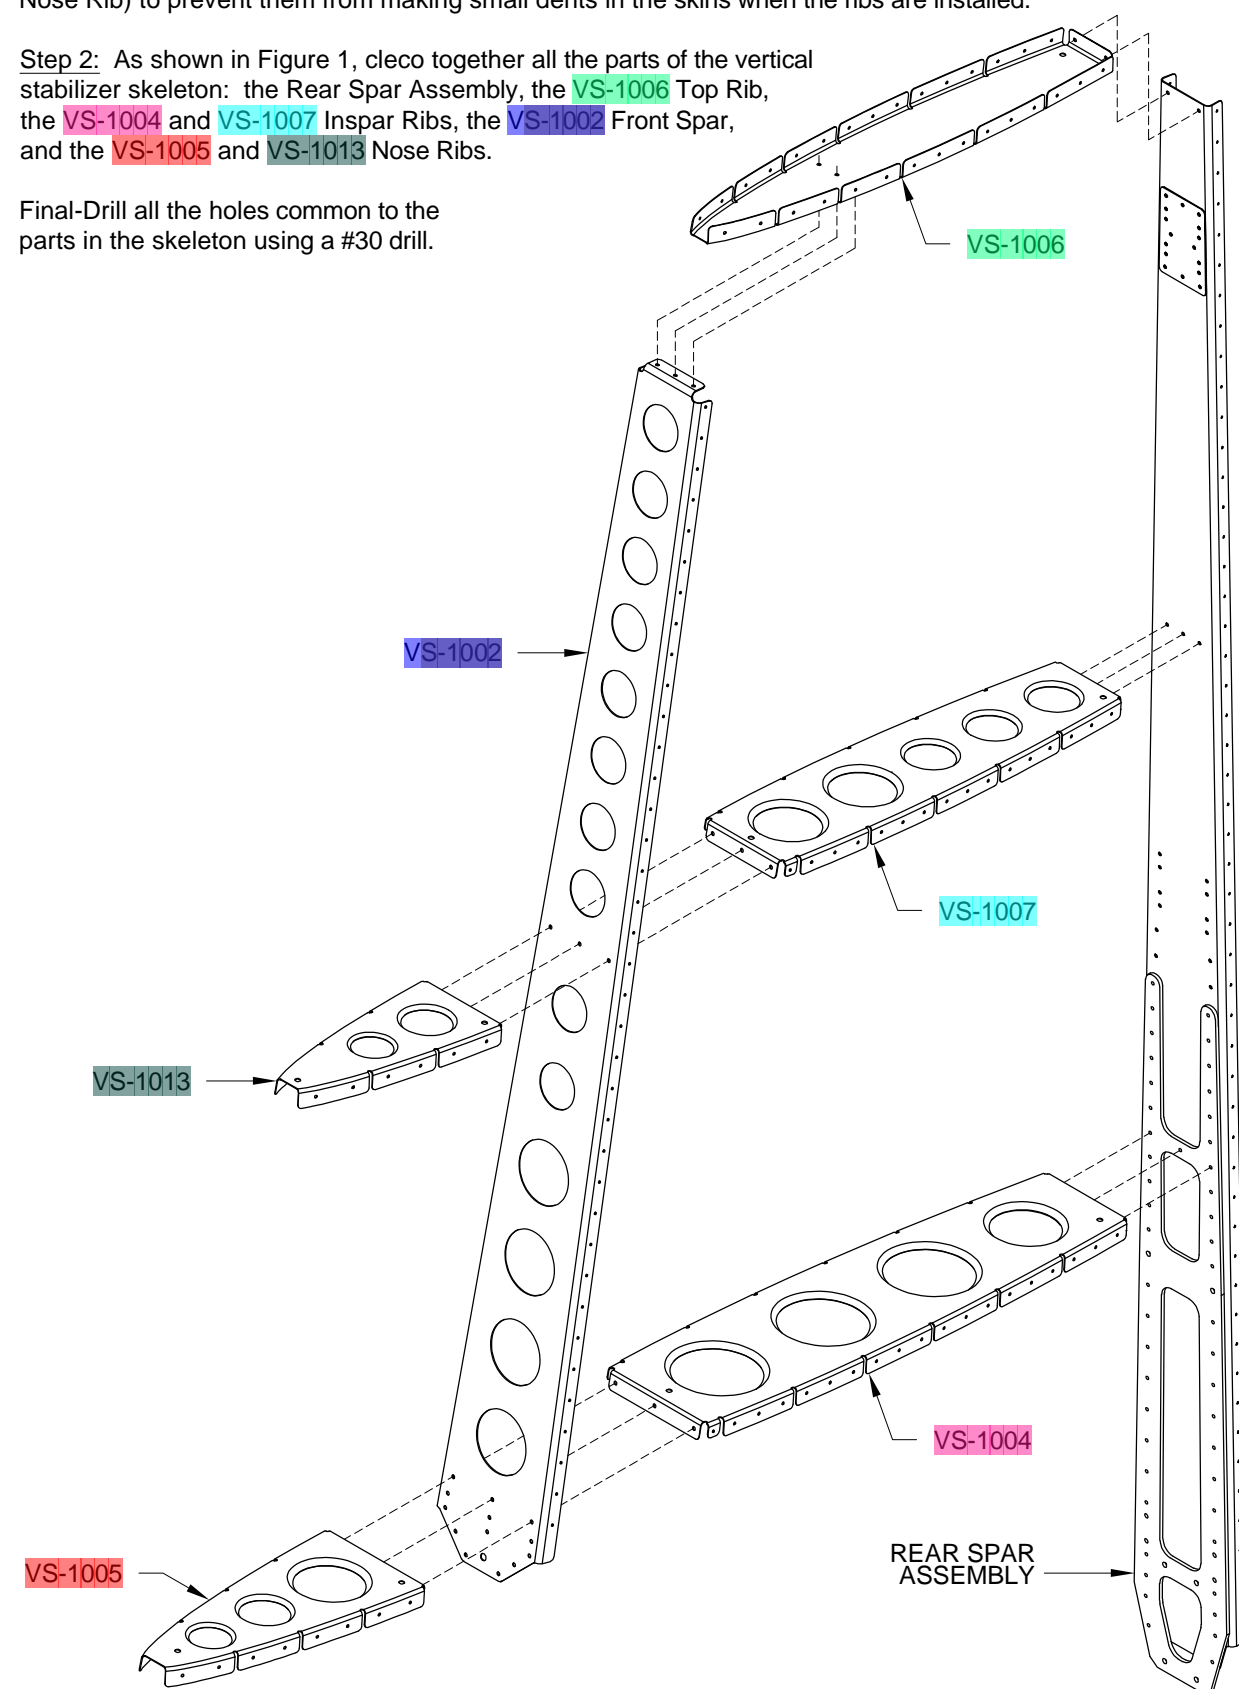

FIGURE 1: SKELETON ASSEMBLY
Step 5: Empennage fairing screw holes are indicated on Page 6-6, Figure 1, along the bottom edge of the depicted skin. Mark the corresponding holes in the VS-1001 Vertical Stab Skin, and in the flanges of the VS-1005 Bottom Nose Rib, the VS-1004 Bottom Inspar Rib, and the VS-1003 Rear Spar.